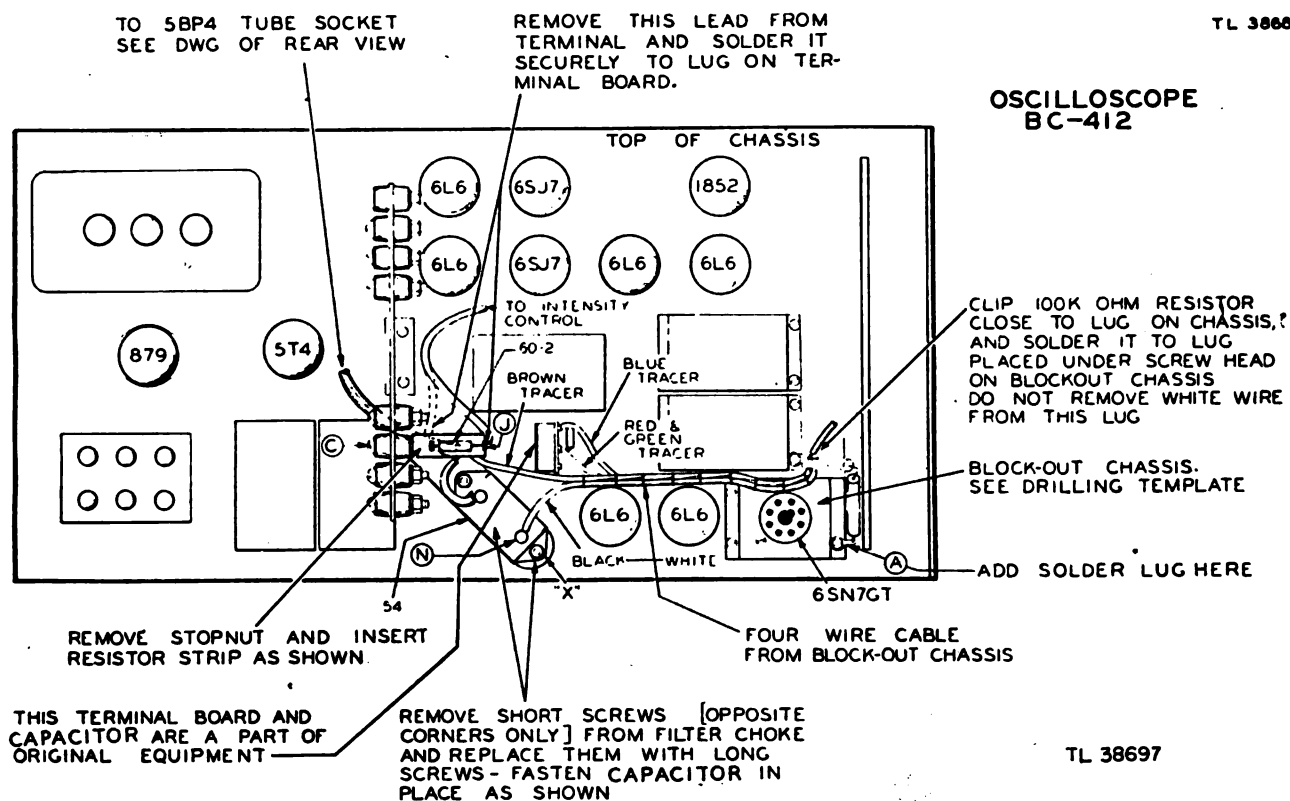

Figure 48. Wiring of blockout chassis on Oscilloscope BC-412.
(6) Place three 4-40 screws (fig. 18, D) through the holes in the top of the retrace blackout and the oscilloscope chassis, and place lockwashers and lug L (fig. 18) under the right front screw, as shown in figure 48, A. On the under side of the oscilloscope chassis, place lockwashers and nuts on these screws and tighten.
(7) Move the 100,000-ohm resistor, which is connected to a ground lug mounted on the capacitor adjacent to the blackout chassis (fig. 48) to the new ground lug L installed under the screw of the block-
**NOTE.** Do not remove the white lead connected to this ground lug (fig. 48).
(3) Mount the 0.005 microfarad, 5,000-volt high-voltage mica capacitor with the F and N terminals directly above the choke, using the 8-32 x 1" screws for mounting, as outlined in paragraph 42, a, (8).
(4) Place lockwashers and nuts on these screws and tighten.
(5) Unsolder the lead connected to the front lug of the feed line through insulator C (fig. 48) which connects to the grid of the tube VT-111 (5BP4), and remove the soldering lug.
(7) Solder the lead that was removed from the insulator C to the open end of the resistor marked J in figure 48.
**NOTE.** On all Radio Sets SCR-268-B having a serial number greater than 601, the strip containing the porcelain insulator C has been replaced by a pressed bakelite strip through which the wires are passed. Cut the wire which leads from the grid of the Tube VT-111 (5BP4) to the intensity control at a point near the right side of the bakelite strip (when viewing the chassis as shown in figure 48). Attach the resistor mounting, (fig. 18, G) to the bakelite strip. Solder the lead from the intensity control to the resistor terminal marked J in figure 48. Solder the lead from the Tube VT-111 to the other terminal.
(8) This operation has, in effect, placed a 100,000-ohm resistor between Tube VT-111 (5BP4) grid and the intensity control.
(14) Two more leads are to be soldered above the oscilloscope chassis. They are the blue and the red-green tracer leads which form part of the cable from the blackout chassis. The blue lead is soldered to the right-hand connection of the terminal board, as shown in figure 48. The red-green lead is soldered to the center terminal of the same board.